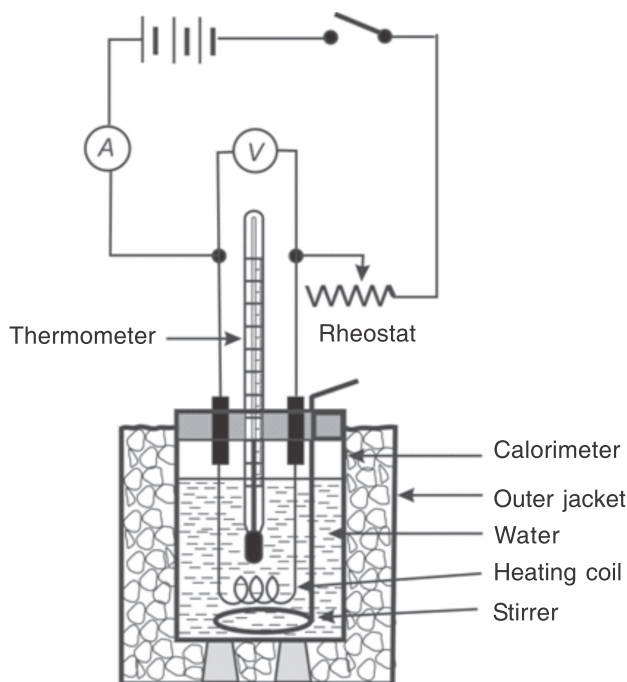

Fig. 5.1: Experimental arrangement for determining the specific heat capacity of water.
Before doing the experiment, study the calorimeter apparatus in the laboratory along with Fig. 5.1.
5. The rheostat (a variable resistor) shown in Fig. 5.1 is adjusted in such a way that a controlled constant current flows in the circuit.
3. Place the calorimeter cup (with water), stirrer and a sensitive thermometer in the calorimeter outer jacket. Connect the circuit as shown in Fig. 5.1. **Do not** switch the power on yet.